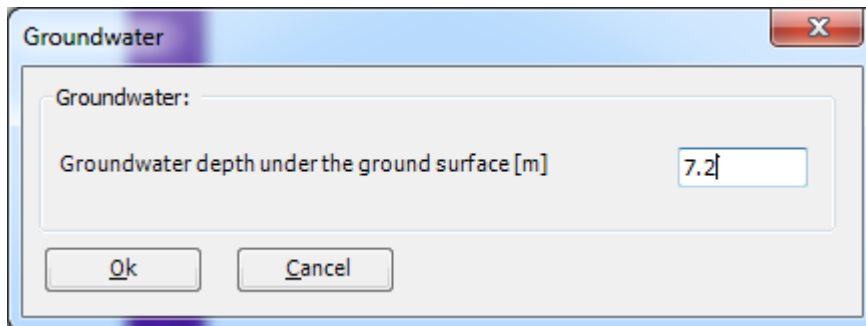

Figure 9.17 "Groundwater depth under the ground surface" edit box
- Double-click on the groundwater level. The corresponding edit box appears allowing you to modify the groundwater depth under the ground surface, Figure 9.17 To neglect the uplift pressure on the foundation, groundwater level is chosen at anywhere under the foundation basement